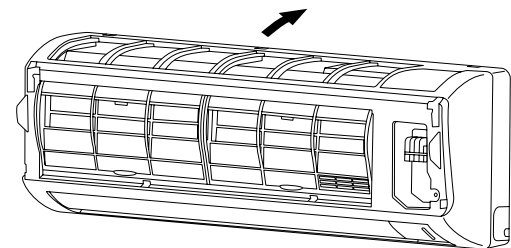

Fig. 3-25
- (1) When installing the grille, place the bottom of the grille into the frame first. (Fig. 3-25)